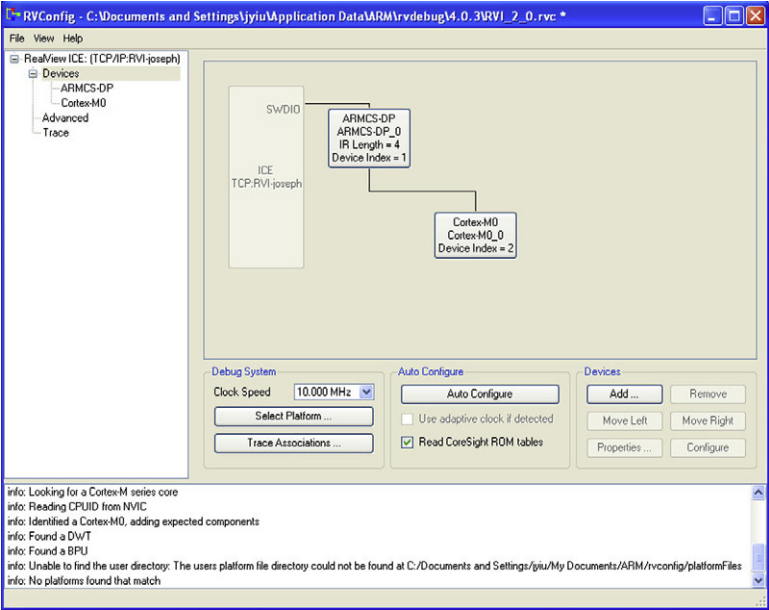

Figure 19.15:
- Now you can connect to the Cortex-M0 using the serial wire debug interface (Figure 19.15).